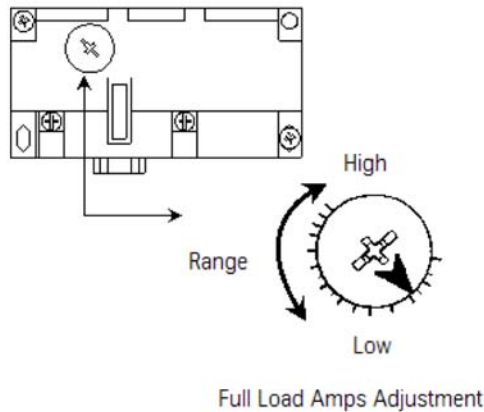

Figure 26 - ESP100 Overload Adjustment
3. Set the full load amps adjustment dial equal to the value calculated in Step 2. See Figure 26.